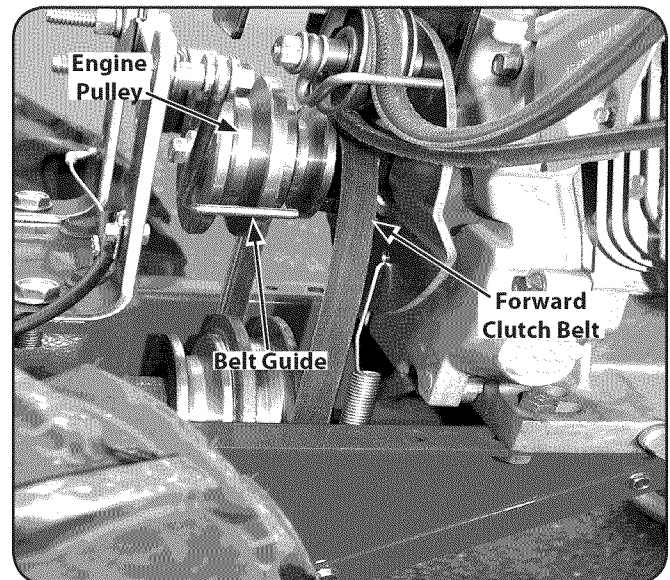
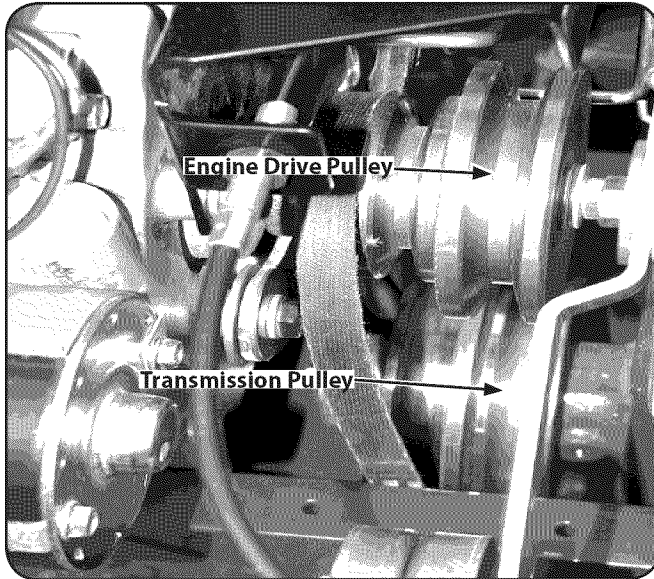

Figure 7-3
Figure 7-4
5. Slide the belt off the engine pulley, away from the engine, out from under the belt guide and completely off the pulley. See. Figure 7-3.
- Slip the belt off the front of the transmission pulley. See Figure 7-4.
- Insert the bottom half of the belt into the smaller, rear-most groove of the transmission pulley. See Figure 7-4. Now slip the top half of the belt under the belt guide (See Figure 7-3) and onto the large groove of the engine drive pulley. See Figure 7-4.